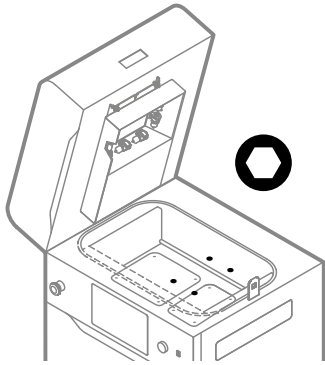

Fig. 13.30 Unscrew the Print Bed screws.
15. Using a 2.5 [mm] allen key, unscrew and remove four screws securing the Print Bed cover (fig. 13.30).